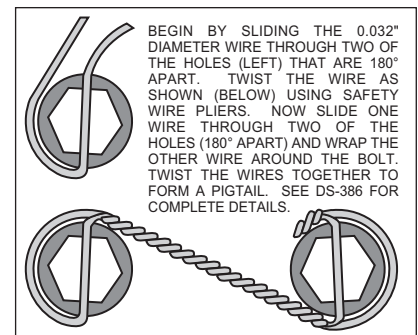

Figure 4. Safety Wire Diagram
- Attach rotor adapter (8) to rotor (9) using six bolts (10). Torque bolts (10) to 180 **in-lb**. Safety wire bolts (10) using standard 0.032 inch diameter stainless steel safety wire as shown in Figure 4. Please refer to Wilwood's data sheet DS-386 (available at www.wilwood.org/ds386.pdf) for complete safety wire installation instructions. **NOTE:** The flat side of the rotor (8) lugs face toward the rotor adapter (9) with the dished side of the rotor adapter (8) facing away from the rotor (9).
- Mount the adapter/rotor assembly (8/9) to the hub (5) using six lock washers (11) and six bolts (12). Torque bolts (12) to 22 ft-lb. Safety wire bolts (12).
- Pack the small outer bearing cone (13) with high temperature disc brake bearing grease and install into front of hub (5). Slide the hub/rotor assembly (5 and 9) with outer bearing cone (13) onto the spindle. Secure using stock washer, adjusting nut and nut locking device.
- Install the dust cap (16) onto the hub (5). Friction created by the o-ring (15) on the dust cap (16) keeps it from unscrewing. The O.D. of the existing spindle washer may be larger than the I.D. of the dust cap (16) not allowing it to seat against the hub face. Therefore, use the spindle washer (14) supplied with the kit instead of the stock washer.
- **NOTE:** Please reference the caution statement at the beginning of the assembly instructions. With the bleed screws pointing up, mount the caliper (17) onto the caliper mounting bracket (1) using lock washers (18) and bolts (19) positioned between caliper (17) and the caliper mounting bracket (1). Finger tighten. View the rotor (9) through the top opening of the caliper (17). The rotor (9) should be aligned in the center of the caliper (17). If not, adjust the caliper (17) by using 0.032 inch thick shims (20) placed between the caliper mounting bracket (1) and the caliper (17). Add as many shim washers (20) as necessary to achieve the correct alignment. Always use the same amount of shims on both the top and bottom caliper mounting bolts (19). Finger tighten and recheck alignment, adjust as necessary. Apply red *Loctite*® 271 to bolt threads (19) and torque to 30 ft-lb. Safety wire caliper bolts (19).
- Install the disc brake pads (21) into the caliper (17). Secure the disc brake pads to the caliper utilizing cotter pin (22).